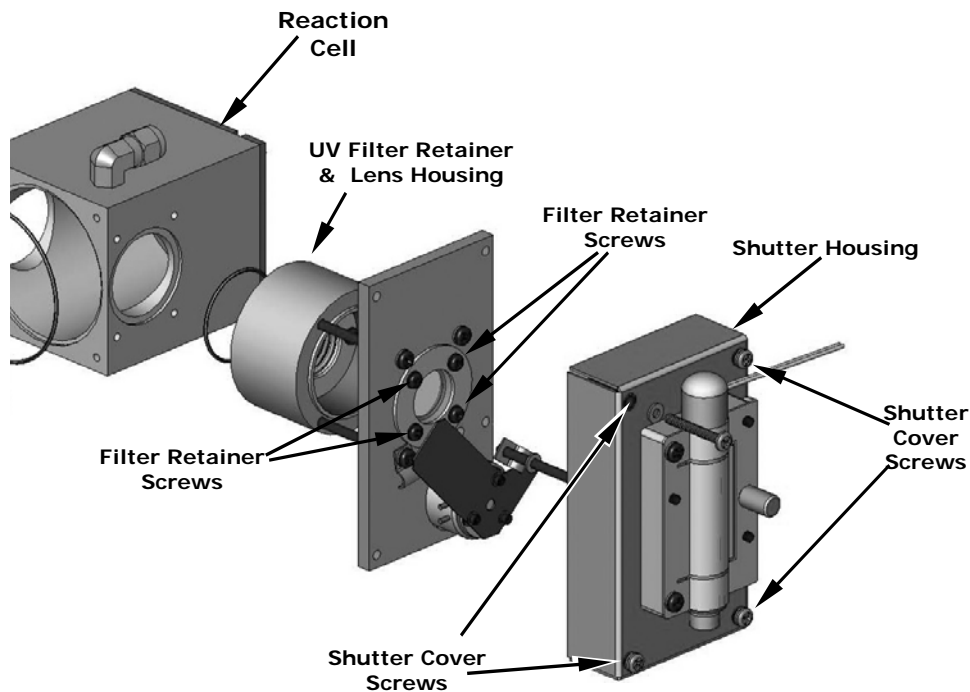

Figure 11-2. Disassembling the Shutter Assembly
3. Remove 4 screws from the shutter cover (see Figure 11-2) and remove the cover.
4. Remove 4 screws from the UV filter retainer (see Figure 11-2).